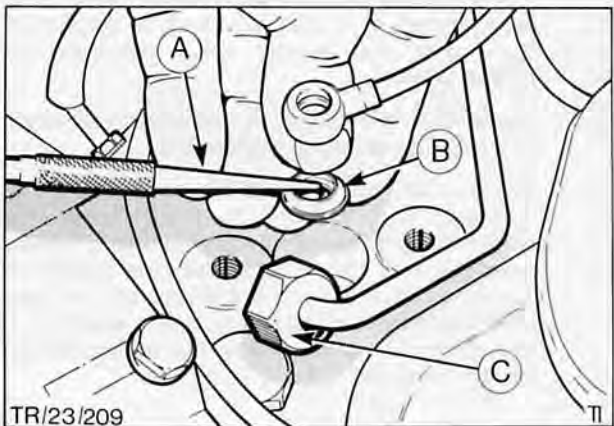

Fig. 57. Injector wave washer removal
5. Using an electricians screwdriver or scribe remove wave washer, Fig. 57.